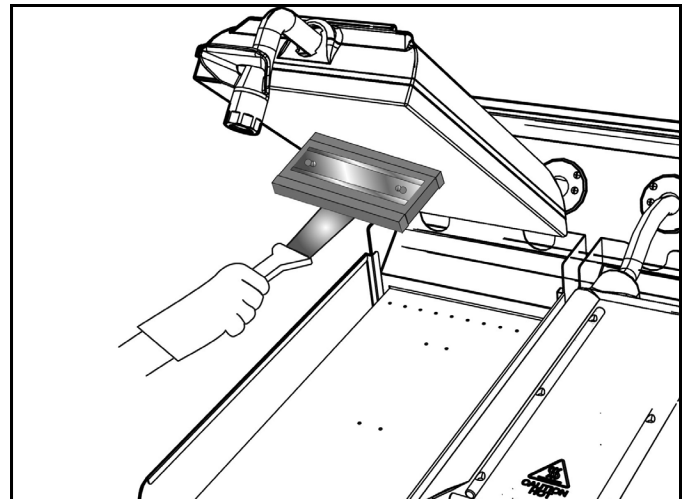

Figure 6-10
9. Use the squeegee to remove the cleaner and rinse all the areas with a wet white towel. Rinse the towel as needed. When clean, wipe all surfaces with a clean dry white towel. See Figure 6-10 and 6-11.